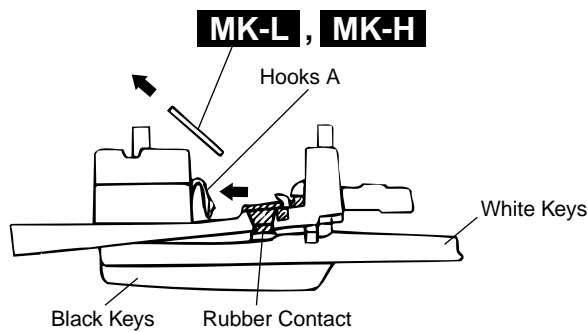

Fig.7
- 9-3 Remove the MK-L and MK-H circuit boards while pressing the fifteen (15) hooks A inward, and then remove the rubber contact. (Fig.7)